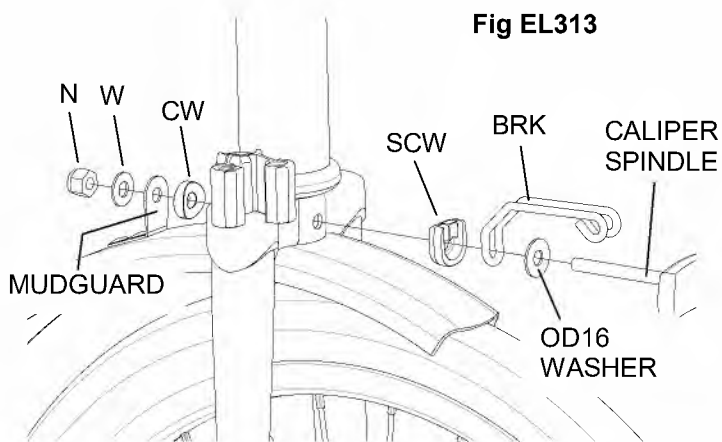

Fig EL313
New 2010 switched halogen and LED front lamps will not fit on the pressed steel front lamp bracket supplied prior to this date. A new two part design consisting of a wire-form and special concave washer must be used (fig EL313).
To add or replace the lamp bracket you first need to remove any existing lamps, brackets or reflectors by undoing the brake spindle nut (N) on the back of the fork tube to release the brake calliper unit. Remove all parts and fit the new bracket parts as shown (fig EL313).